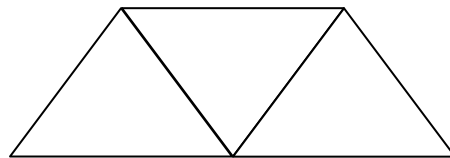

Fig.1
- 9 a) Explain FEM? (2)
- b) List the various steps in FEM. (3)
- c) What is discretisation? Sketch two types elements each for one-dimensional and two-dimensional domains. (5)
- 10 a) Derive the shape function for one-dimensional linear element, plot its variation along the element. (4)
- b) The nodal values of displacements for a one-dimensional element are 3 mm and 7 mm respectively. Determine the displacements at  $1/3^{\text{rd}}$  lengths of the element considering it as linear element. (2)
- c) In the above problem, if the displacement at midpoint of the element is given as 5 mm, determine the displacement at  $2/3^{\text{rd}}$  length of the element considering it as quadratic element. (4)
- 11 a) Write the standard form of the discretised equation in FEM formulation, naming each term it. (3)
- b) Write the integral equation for element stiffness matrix with conventional notations. (2)
- 12 a) Elaborate about node connectivity matrix, what is its use? (4)
- b) Sketch a simple truss with seven members and five joints is given in Fig.1. Divide and number each element and node of the truss, considering each member as one-dimensional linear element. Also prepare the node connectivity matrix for this. (6)
- 9 a) What is FEM? Describe briefly the main steps in FEM. (8)
b) What is use of shape function in FEM? (2)
- 10 What are the different types of elements in used in FEM for 1D, 2D and 3D problems? Sketch two types of element s for each case. (10)
- 11 a) Derive the shape for one dimensional linear element and plot it distribution along the element. Also obtain the expression for the gradient of shape function and plot it. (6)
b) The axial displacements at the end points for one dimensional element subjected to axial force are 2 mm, 5 mm respectively. Determine the axial displacement of a point at distances of  $1/3^{\text{rd}}$  and  $2/3^{\text{rd}}$  of its length from one end. (4)
- 12 Derive the shape functions for linear triangular element, and also obtain the expression for the gradient of shape function. (10)
- 13 a) Differentiate between global coordinates, local coordinate and natural coordinates. (3)
b) Determine the x and y coordinate of point P (x,y) for the triangular element shown in Fig.1. The shape functions  $N_1 = 0.3$  and  $N_3 = 0.2$ .
- 14 a) What are isoparametric elements? (7)
b) Sketch the linear and quadratic quadrilateral isoparametric elements. (4)